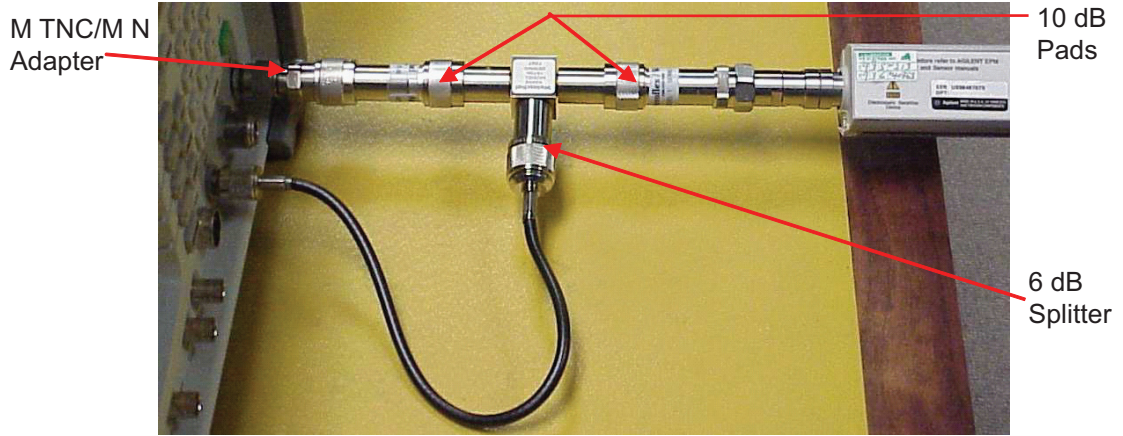

Fig. 4-19 IF AMP Calibration Setup
3.	Configure equipment. Refer to Fig. 4-19 as needed.